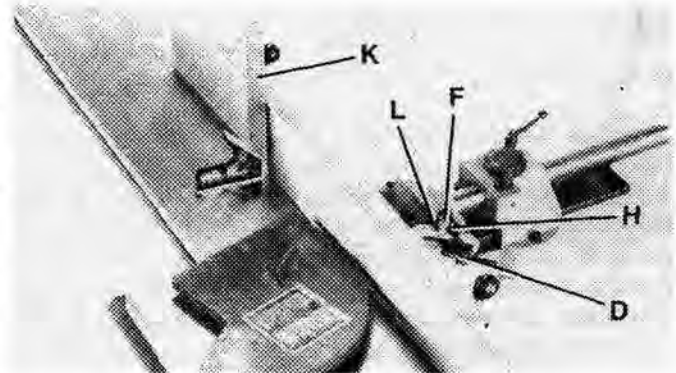

FIGURE 37
2. Position the fence at 90° to the table. Make certain flip stop (F) Fig. 37, is lowered as shown, and adjustment screw (H) is contacting the flip stop (F); then tighten locking handle (D).
3. Place a square (K) Fig. 37, on the table and against the fence, as shown, and check if the fence is 90° to the table.
4. If an adjustment is necessary, loosen locking handle (D) Fig. 37 and lock nut (L). Rotate adjustment screw (F) until you are certain the fence is 90° to the table. Tighten lock nut (L).